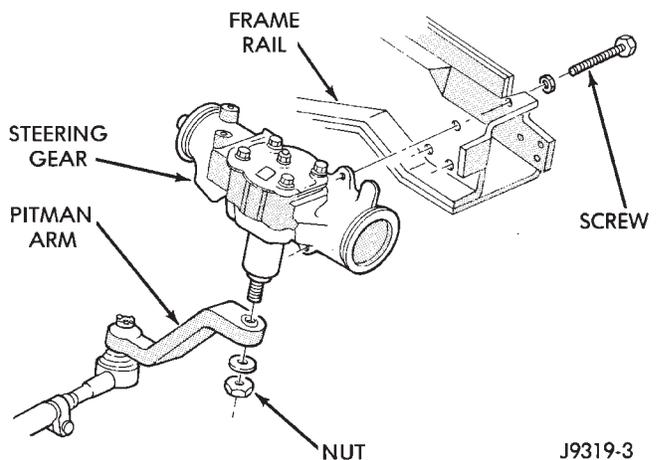

Fig. 4 Steering Gear Mounting
- (5) Remove the steering gear retaining bolts and nuts. Remove the steering gear from the vehicle (Fig. 4).